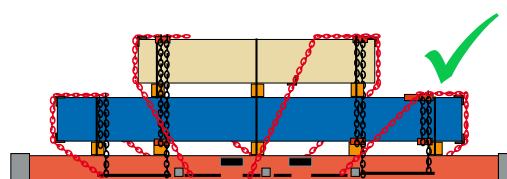

Fig. 6: Bearers vertically aligned, extra belly wrapped chain for longer packs and extra cross over chains to secure the uneven length packs.
- Add an extra belly wrapped chain for every 1.5 m span of longer packs. (Fig. 6 & 9)